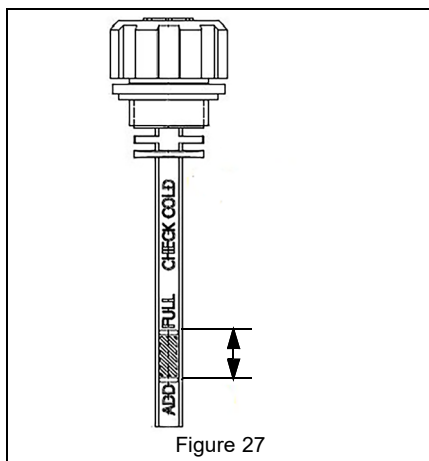

Figure 27
3. Fill expansion tanks with HT-1000 Full-Synthetic Hydraulic Fluid (Gravely p/n 00058400) until oil reaches the cold fill indicator mark. See Figure 27.